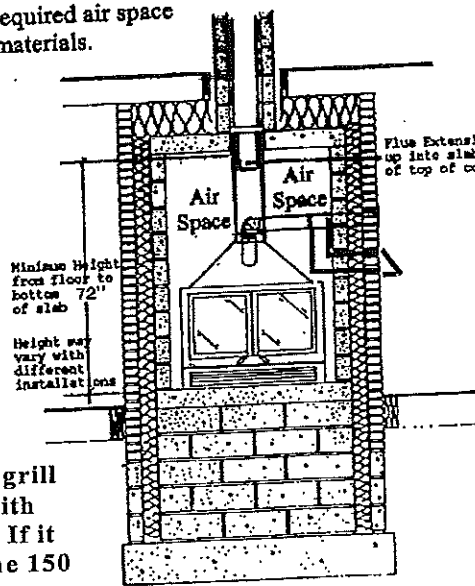

FIGURE 1
4. Lay up 8" x 8" x 16" concrete block from foundation up to ground level. Reduce foundation block dimensions to accommodate 4" of insulation and 4" face brick. (Allow more for stone.) Continue laying block bringing up this same dimension to floor level. NOTE: See Fig. 1, 1A. Decide at this point whether an ash pit is to be used.
6. Form up and pour a 6" concrete slab. Refer to Re-bar requirements (Fig. 2). A thermo-break of insulation must surround this slab if installed on an outside wall. (See Fig. 1, 1-A). NOTE: If an ash dump is to be used, leave a 5" x 10" hole in slab.
21. When laying up face brick on the sides and back, allow at least 4" of space to be filled with loose fiberglass insulation. If the face brick is being used on the outside of the building allow 6" of area to be insulated. Make sure that this insulation surrounds the bottom slab below the frostline, thus preventing any cold air conduction through the hearth and lower grill area. (See Fig. 1 - 1A) NOTE: If installing adjacent to combustible materials, leave at least 6" of open space between block and combustible surface. Fill this area with fiberglass insulation.